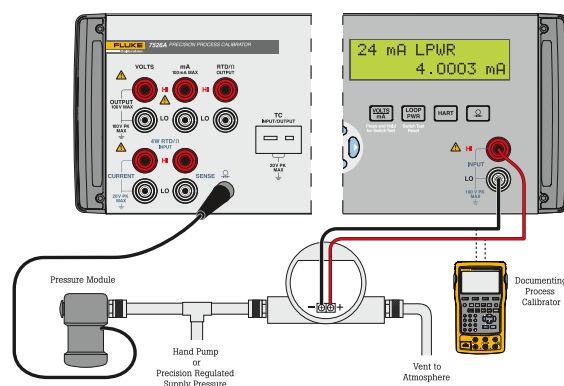

Figure 4. Pressure module, source, and transmitter connection.
1. Make the necessary connections to the pressure module, pressure source, and pressure transmitter as shown in Figure 4. Connections must be leak free for proper calibration. Connect to the High Side (H) and make sure the Low Side (L) is vented to atmosphere.